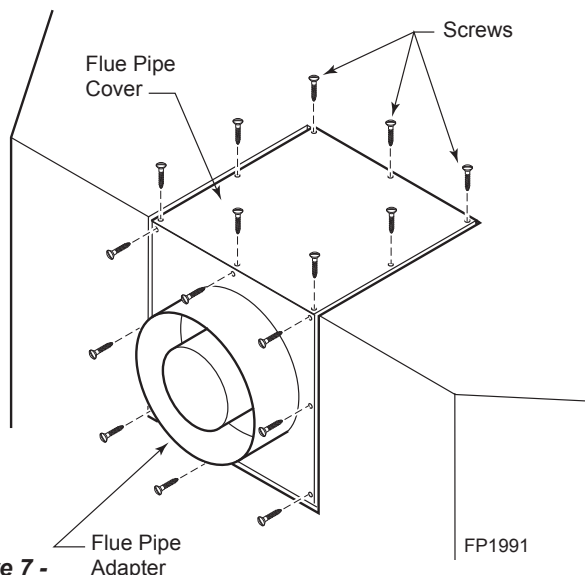

Figure 7 -
1. Remove the eight (8) screws securing the flue pipe adapter to the fireplace body. *Figure 7*
3. Remove the eight (8) screws securing the flue pipe cover to the top of the intake box and remove the cover and gasket. *Figure 7*